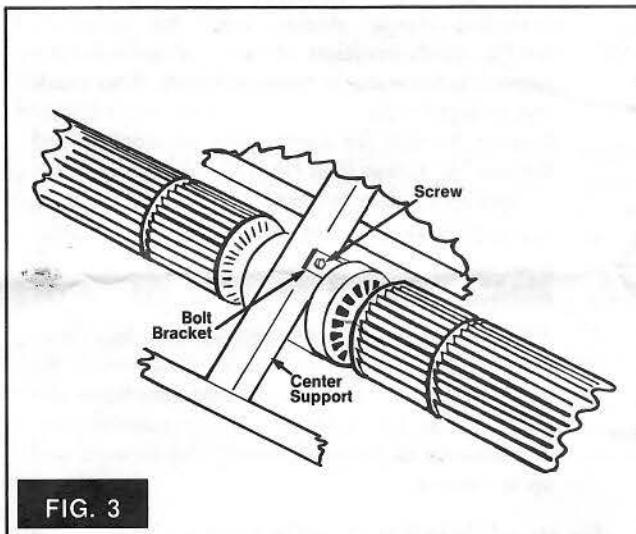

FIG. 3
6. Place blower in position as shown in (Fig. 4). Attach it through the bolt bracket to the center support with screw provided. (Fig. 3 & 4)